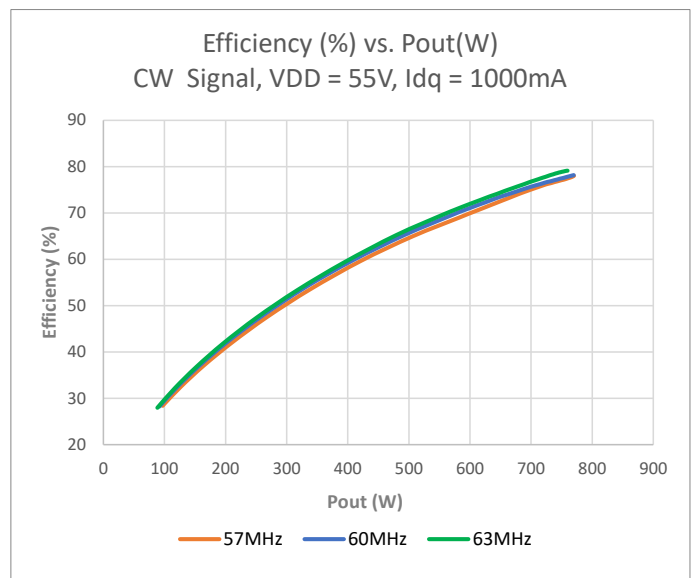

Figure 10 Efficiency (%) over output power (W), CW signal, VDD = 55V, Idq = 1000mA
- Figure 10 Efficiency (%) over output power (W), CW signal, VDD = 55V, Idq = 1000mA 9